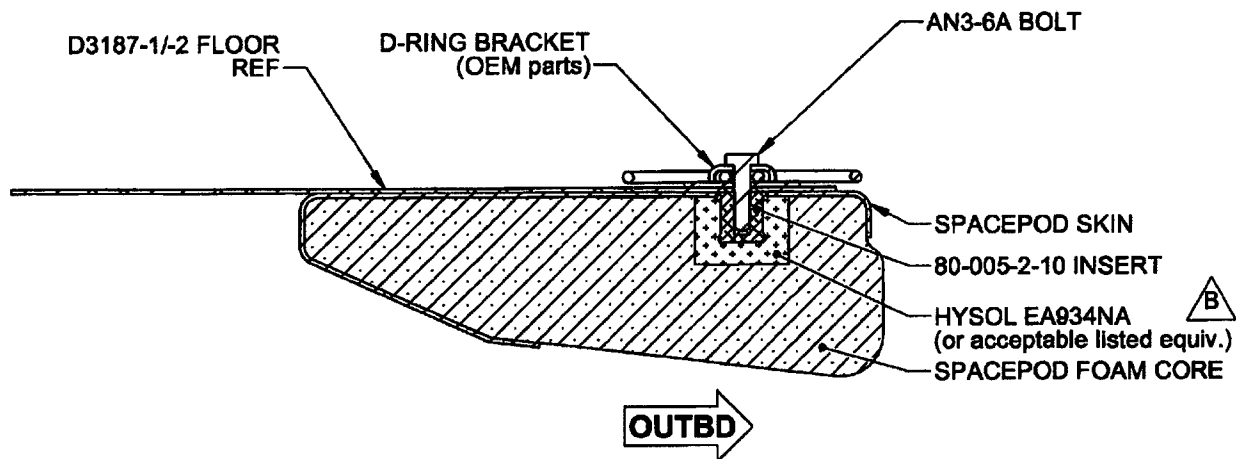

FIGURE 2: SECTION A-A
- 2.5 Using the $\phi 0.201$ " holes as pilot holes, drill $\phi 0.565$ " holes into the Spacepod composite floor (do not score the far side of the sandwich material). Route the material under the hole and clean out the foam core material to at least 0.25" all around the hole, as shown in Figure 2. (Suggestion: a hex head wrench chucked into a slow speed drill makes this step easy and uniform)